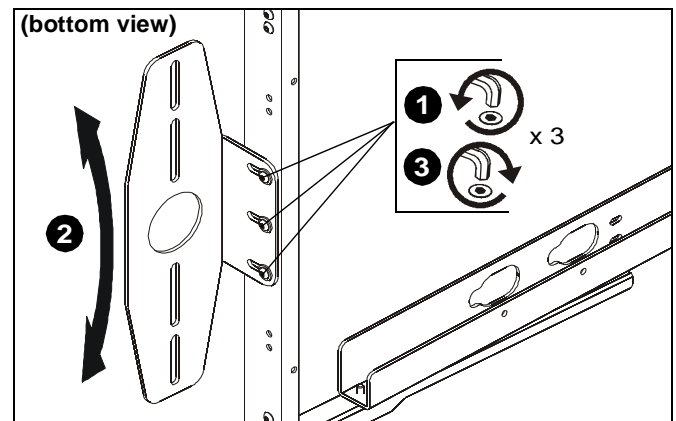

Figure 9
1. Loosen three button head cap screws securing speaker mounting bracket to horizontal bracket using 1/8" hex wrench (F) provided. (See Figure 9)
3. Tighten two button head cap screws securing speaker mounting bracket to horizontal bracket using 1/8" hex wrench (F) provided. (See Figure 9)